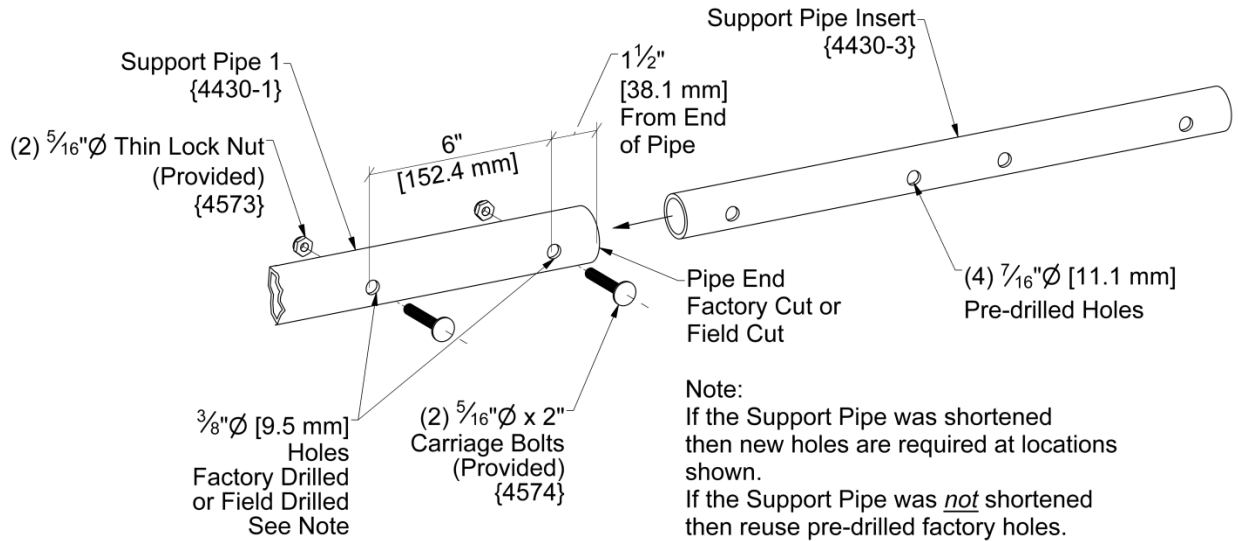

Figure 4
Step 1: Slide the Support Pipe Insert into Support Pipe 1 as shown in Figure 4 below.